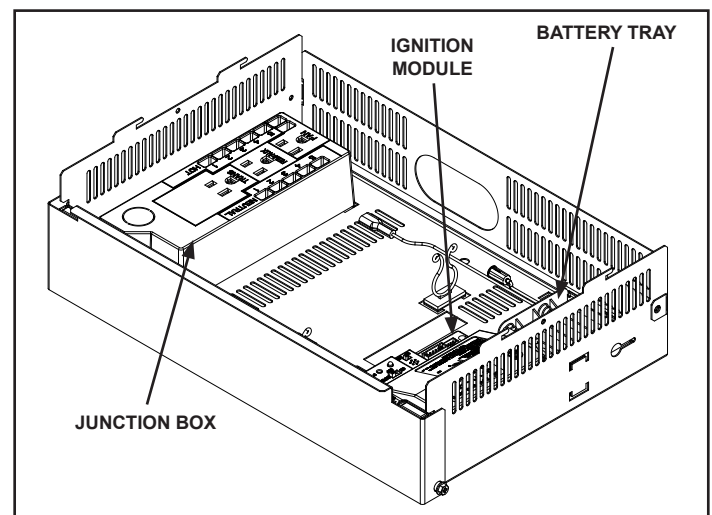

Figure 3.4
The IntelliFire™ Plus intermittent pilot ignition system comes with a battery backup system that enables the system to operate in a power outage. The system offers seamless transition from household AC power to battery backup. A factory-installed battery pack is located in the control cavity of the appliance. See Figure 3.4. Battery longevity and performance will be affected by long term exposure to the service temperatures of this appliance.
2. Locate the battery tray and insert four AA cell batteries. Battery polarity must be correct or module damage will occur. See Figure 3.4. A complete wiring diagram is included in the Electrical section of the appliance Installation Manual.
- Locate the ignition module in the control cavity. See figure 3.4